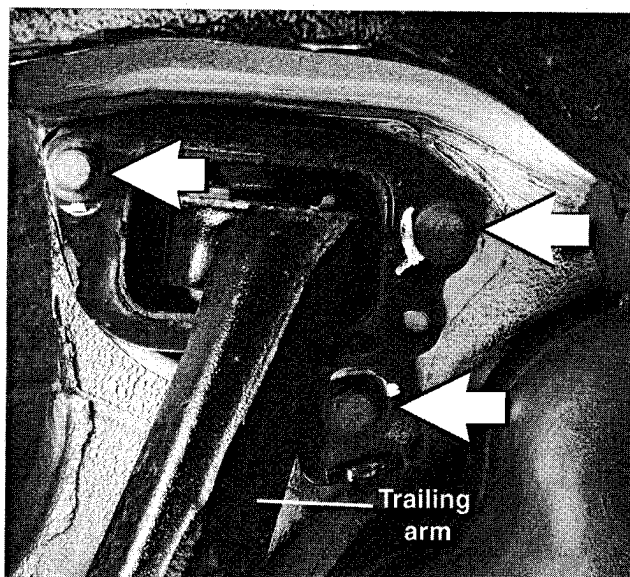

Fig. 20. Trailing arm front bracket bolts (arrows).
10. Remove three bolts holding trailing arm front bracket to body. See Fig. 20. Remove trailing arm.